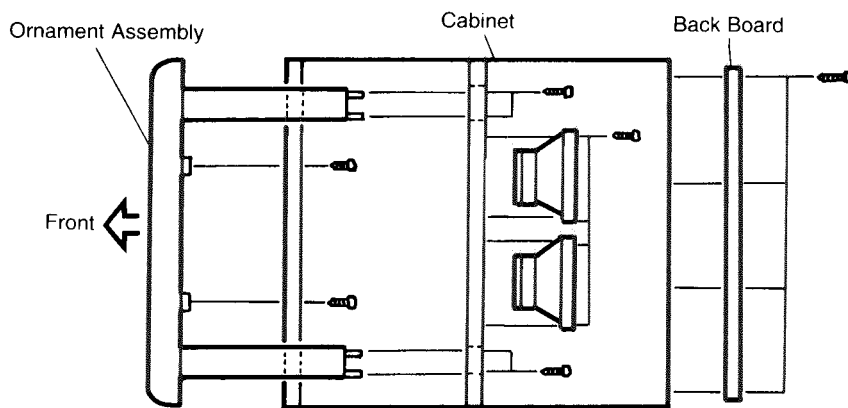

Fig. 2-1
3. Remove the four screws from the back of the cabinet front. (Fig. 2-1)
The speaker units are mounted on the rear of the partition inside the cabinet. Remove the back board, then replace the speaker unit. (Fig. 2-1).